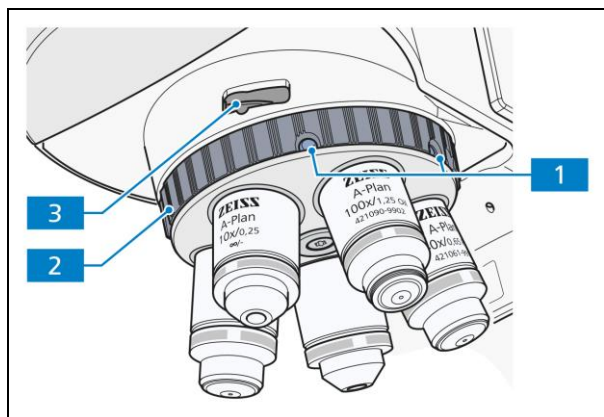

Fig. 2-22 Nosepiece of the transmitted/ reflected light polarization stand with mount for compensators
- You can change the objectives quickly by turning the nosepiece on knurled ring (Fig. 2-22/2).
- Incorporates slot (Fig. 2-22/3) for 6x20mm slider (compensators, analyzers, quarter plates).
- Stand for transmitted light polarization and stand for transmitted light conoscopy with 5_position nosepiece, of which one position is fixed and four positions can be centered with the aid of two screws each (Fig. 2-22/1).
Do not overtighten the screws (Fig. 2-22/1) on the stop.